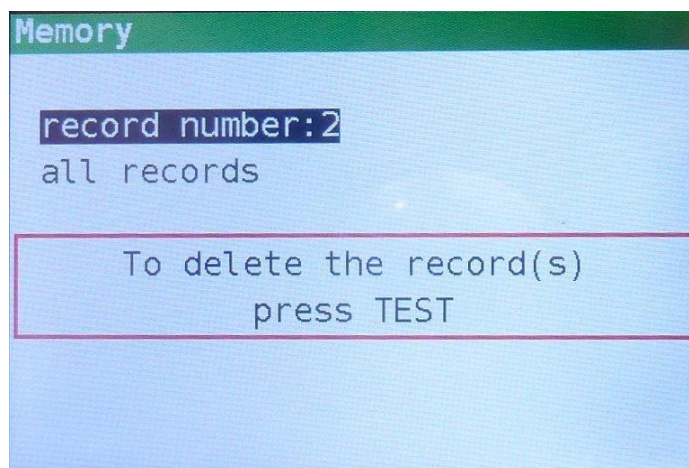

Figure 8.8: delete screen
- Step 3** Press the **RIGHT** key, the following screen will be displayed (Figure 8.8).